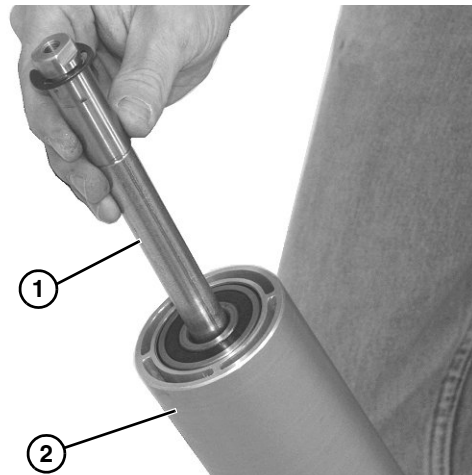

Figure 53
6. Slide the shaft assembly (Figure 53, item 1) out of the pulley (Figure 53, item 2).